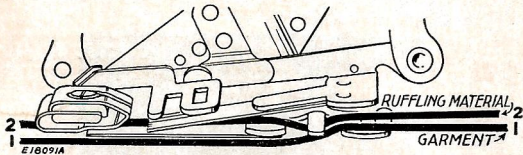

FIG. 66. CORRECT POSITIONS FOR THE MATERIALS
- (1) Insert the material to be ruffled between the two blue blades **Line 2, Fig. 66.**
- (2) Place the material to which the ruffle is to be attached under the separator blade **Line, 1, Fig. 66.**
- (3) Proceed the same as for plain gathering.